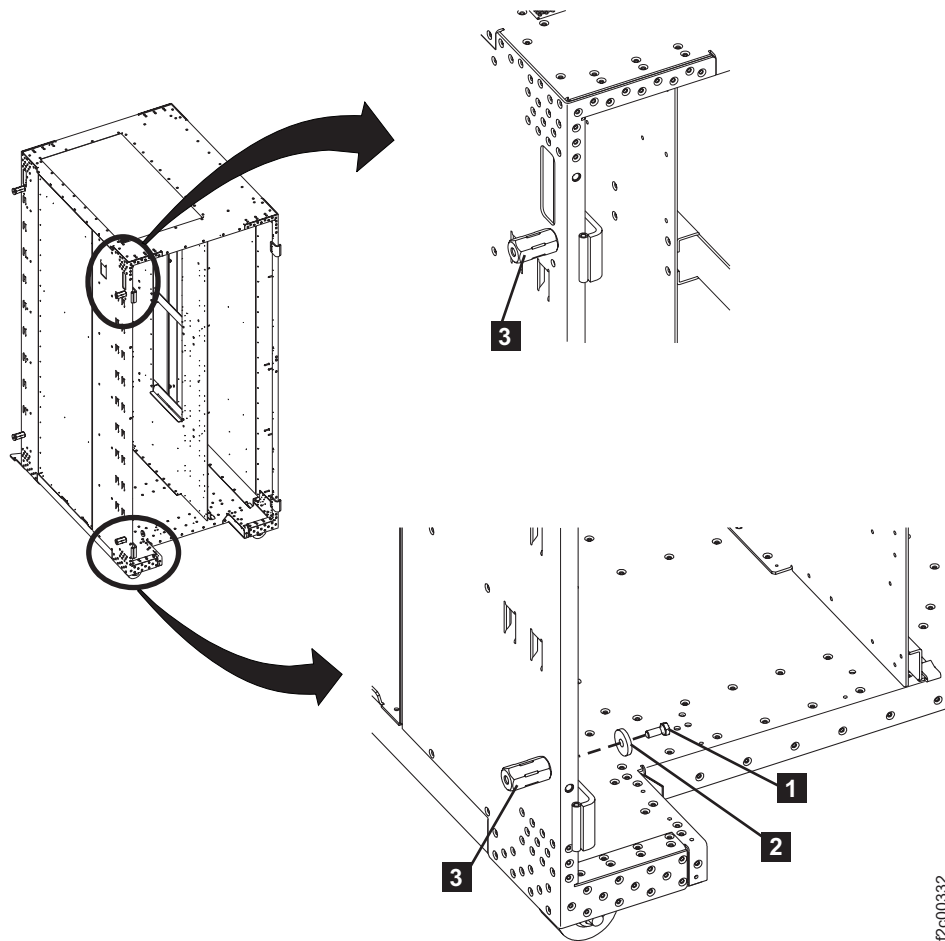

Figure 9. Interrack spacer studs
- a. Refer to Figure 9 on page 16. Install a spacer stud **3** in the lower rear left corner of the rack using a mounting bolt **1** and a washer **2**. Leave the bolt loose so that it will be easier to align the spacer stud with the bolt from the new frame.
7. In the upper rear left corner of the existing rack, next to the hinge are two holes, one above the other. Use the upper hole and install a spacer stud **3** using a mounting bolt **1** and a washer **2**, see Figure 9. Do not tighten the bolt fully as some alignment will be needed. You can hold the side cover next to the spacer studs to ensure the spring clips align properly before going to step 9 on page 17.
8. In the upper rear left corner of the existing rack, next to the hinge, there are two holes; one above the other. Use the lower hole and install a spacer stud **3** using a mounting bolt **1** and a washer **2**, see Figure 9. **Do not** tighten the bolt fully as some alignment will be needed. You can hold the side cover next to the spacer studs to ensure the spring clips align properly before going to step 9 on page 17.